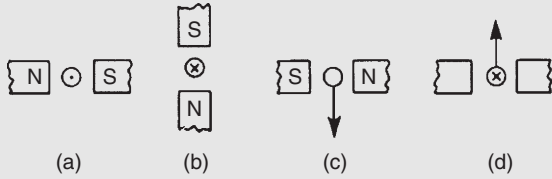

Figure 8.15
**Problem 5.** With reference to Fig. 8.15 determine (a) the direction of the force on the conductor in Fig. 8.15(a), (b) the direction of the force on the
conductor in Fig. 8.15(b), (c) the direction of the current in Fig. 8.15(c), (d) the polarity of the magnetic system in Fig. 8.15(d).